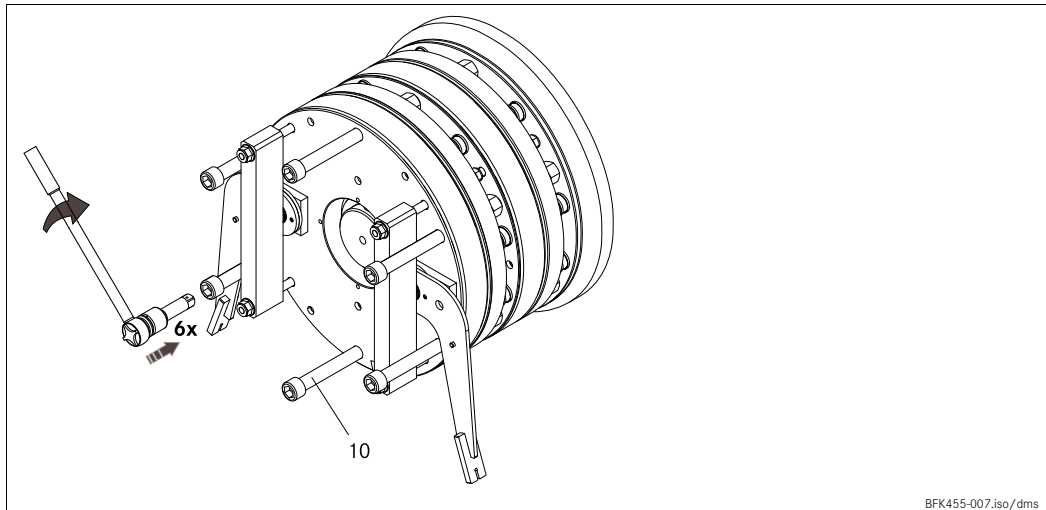

Fig. 17 Checking the air gap
8. Evenly tighten the brake with the six cheese-head screws (10) included in the scope of supply in several runs using a torque key, Fig. 17.